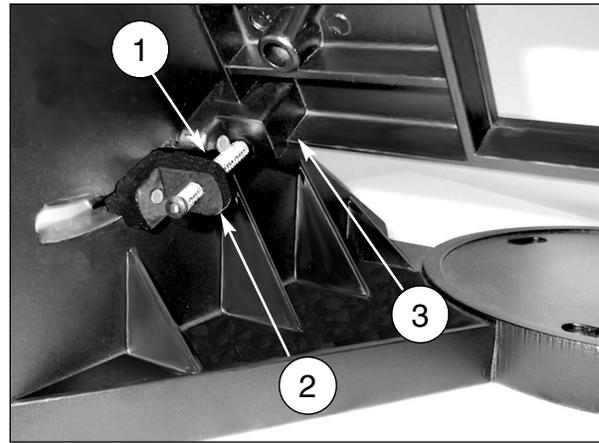

Fig. 2: Latitude Adjustment Control
4. Slide the remaining bolt (**4, Fig. 1**) through the curved opening on the side of the wedge body marked with the latitude adjustment scale and then into the fine adjustment L-bracket (**1, Fig. 2**). (Place the bolt behind the tilt angle adjustment bolt (**3, Fig. 1**.) Using the provided hex key, tighten all the bolts to a firm feel only.
5. Thread the 1.25" screw (**2, Fig. 2**) into the L-bracket until it makes contact with the back of the tilt plate (**3, Fig. 2**). Turn this screw in either direction as necessary to make fine adjustments in latitude. See the telescope instruction manual for
6. Thread the 1.25" screw (2, Fig. 2) into the L-bracket until it makes contact with the back of the tilt plate (3, Fig. 2). Turn this screw in either direction as necessary to make fine adjustments in latitude. See the telescope instruction manual for information about polar alignment.